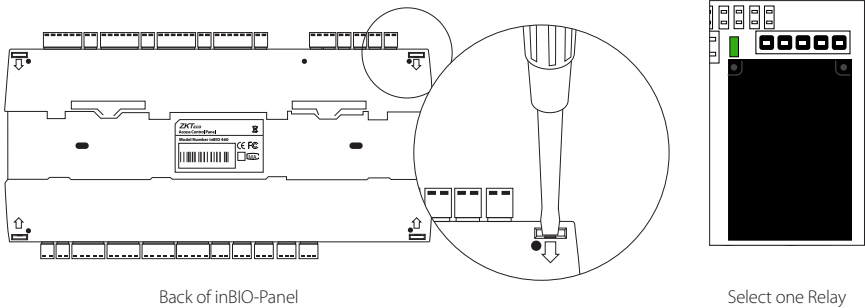

Figure 21
1. Take apart the cover of inBIO Panel. Push the tab inward (see figure 21)